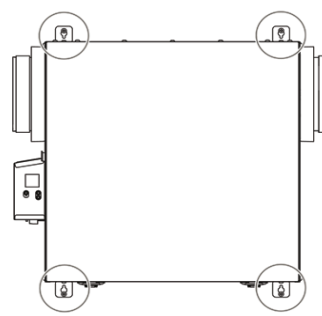

Fig. 4 – Installation With Brackets
- Insert the provided brackets under the unit frame (Fig. 4).